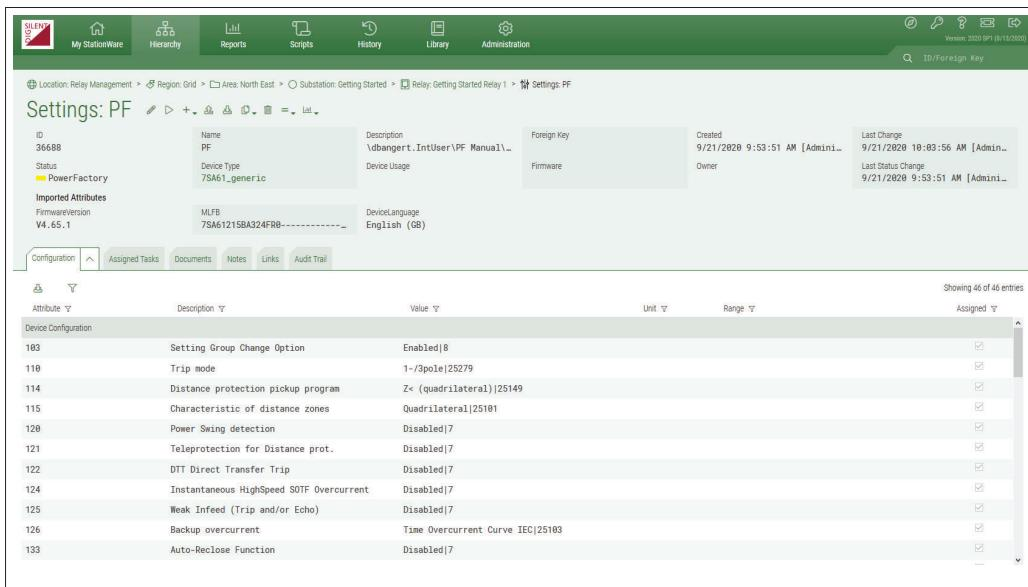

Figure 24.16.16: Setting detail page
- Switch to the settings detail page of the new *PowerFactory* setting (see Fig. 24.16.16).